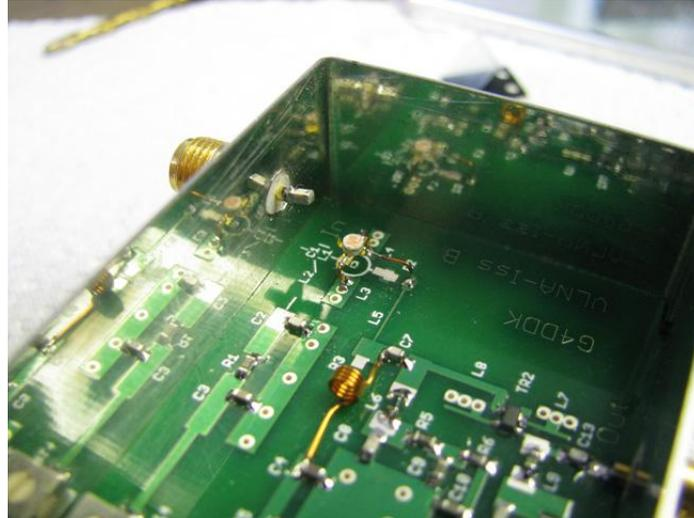

Fig 16 Soldering C1 onto the input connector spill
Carefully tin the tip/end of the input SMA connector spill. Holding the input capacitor C1 with fine tweezers, solder it in place as an extension of the input spill. It should **not** be at an angle as shown in figure 16!
*Also note that the hand wound choke shown in place of L10 in figure 16 is now replaced by an SMD inductor for repeatability.*
Issue C2 released 14/6/2011 - Figure 16(b) replaced with photo.